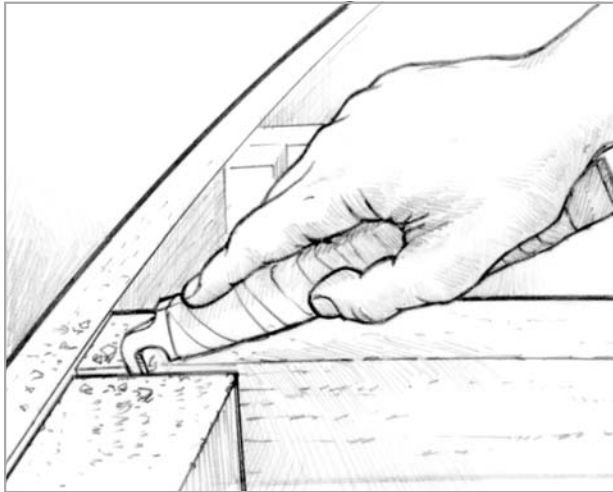

Figure 4-7 Use a scraping tool to clean out and abrade the inner joint surfaces.
2. Open as many of the joints as you can reach, between frames and between frames and the outer skin. Loosen fasteners wherever possible. A small pry bar or wedge may be used to force the joint open temporarily. Use a saw blade or other sharp tool to scrape out old paint, varnish or dirt from the joints (*Figure 4-7*). Clean the inner joint surfaces to bare wood as much as possible.